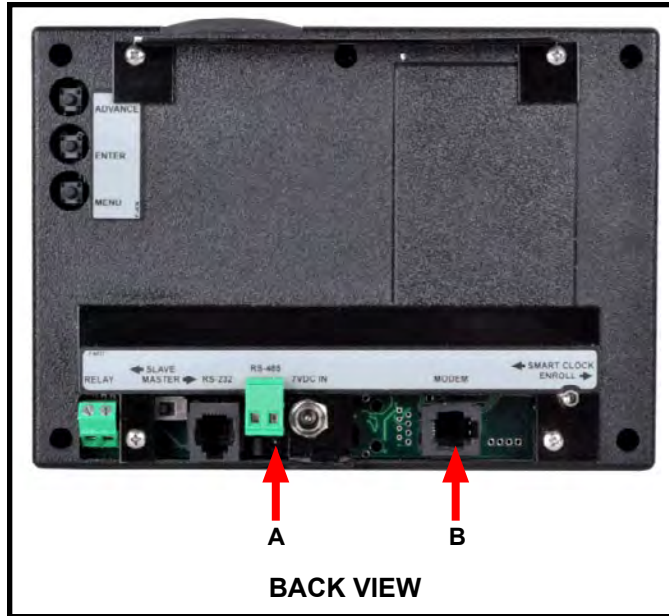

Figure 111. Smart Clock 50322 Internal Modem features and components
- II. Ensure that the Modem Terminal Jumper is applied to the Smart Clock (see Figure 111).